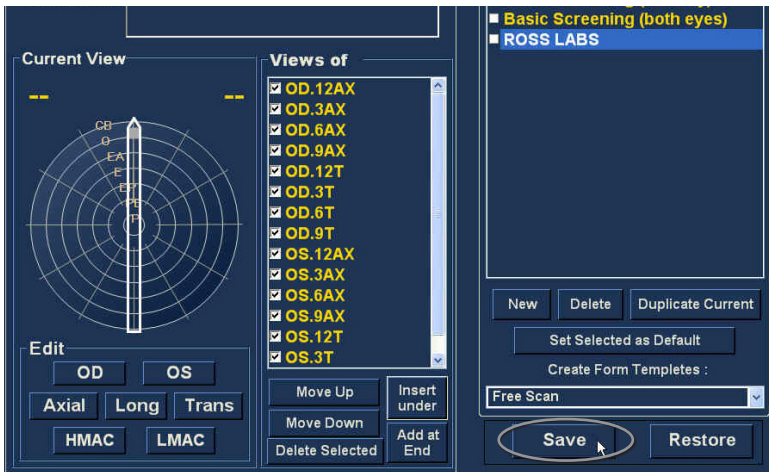

Figure 4.24 - Saving New Sequence
- Continue to add and define new sequence scans as previously described. When your sequence is complete and ready to save click on the "Save" button as shown in Figure 4.24.